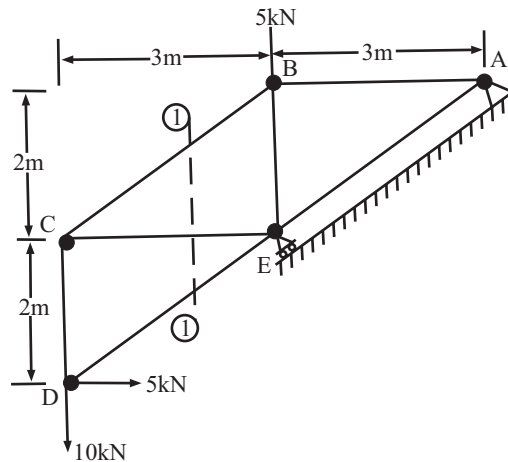

Fig 8
Q.8. For the overhanging truss shown in fig 8. Compute the member force in BC, CE and DE.